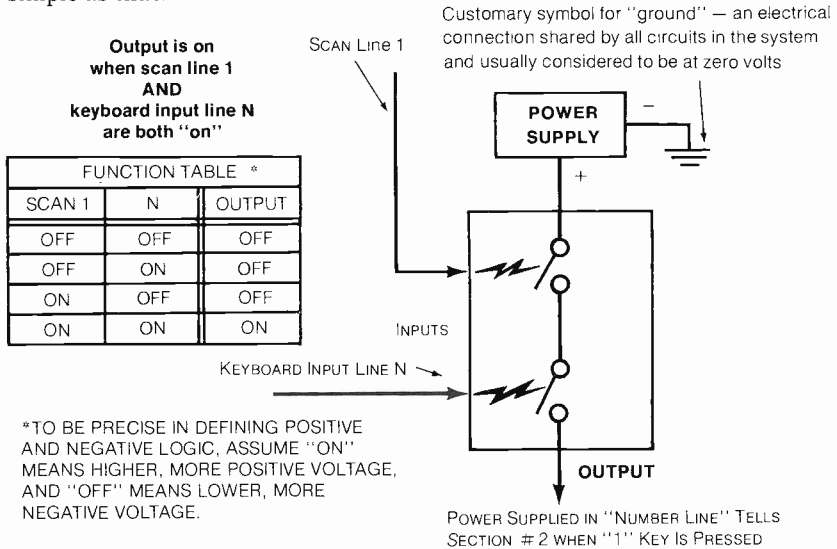

Figure 2-5. General idea of how the AND gate in preceding figure works
Before we see how all the rest of the ten "number wires" are turned on by AND gates, let's look at the idea of how AND gates work, shown in *Figure 2-5*.
Regardless of the details of circuit design (which we will study in due time), all AND gates fit the mental picture presented in *Figure 2-5*. They all act as though they consisted of electrically-controlled switches connected "in series" as shown, with each switch turned on by an "on" signal in a particular input wire. ("In series" means with the same current passing through both switches.) In this particular example, when "on" signals in both input N and scan line 1 turn on both switches at the same time, electricity flows from the power supply to the output line. This gives us the output signals we want for each of the possible combinations of input signals, as summarized in the "function table" in the figure. It's as simple as that.
On the other hand, suppose the circuit in *Figure 2-5* were used in some other application, where “on” (“high” voltage) meant “no” (0) and where “off” (“low” voltage) meant “yes” (1). The customary name for that situation is “negative logic.” Then the truth table would be different. The output would be 0 only when both inputs are 0. So the circuit in that application *would not be an AND gate*. If you wanted a circuit to perform the AND function using negative logic, you’d have to build it another way.
And so, to be precise in our name for the circuit in *Figure 2-5*, we have to call it a *positive* AND gate. A negative AND gate would be different.
As for the gates that the encoder has taught you about – you’ve already got a good mental picture of how to think of a circuit that acts as an AND gate in terms of positive logic (“high” voltage = 1, “low” voltage = 0). *Figure 2-5* showed us that all you need, essentially, is an electrically-controlled switch for each input (whether two, three, or more), with the switches arranged in series.
Figure 2-10 provides a similar mental picture of a circuit that’s an OR gate when it’s used with positive logic. Here again, we have an electrically-controlled switch for each input (as many inputs as you need, though only two are shown, labeled A and B.) But the switches are connected “in parallel” as we see here, rather than in series as in *Figure 2-5*. So the output would be “on” either when input A is “on” OR when input B is “on” (or when both are on, of course). You may imagine a lamp on the output to indicate when the output is “on.”
* AS IN FIGURE 2-5, ASSUME "ON" = HIGHER, MORE POSITIVE VOLTAGE, & "OFF" = LOWER, MORE NEGATIVE VOLTAGE.
Now that you understand what AND gates and OR gates do and how they can team up to handle complicated decisions, let's move on to the subject of how *real* gates work – how transistors are hooked together to act as gates. As it turns out, transistors can't simply be inserted into the place of the switches in *Figures 2-5* and *2-10*, so let's see just how they *are* used. In doing so, we will be chipping into the bedrock *under* the foundation of digital electronics that we spoke of earlier. This bedrock is the semiconductor material of which transistors are made – which in these days is the silicon integrated-circuit chip.